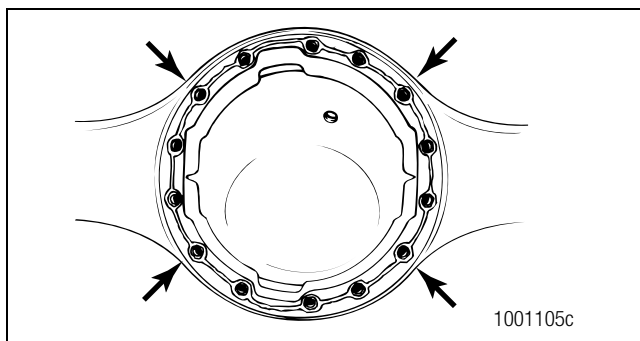

Figure 7.3
8. Install nuts and washers or capscrews and washers, if equipped, into the four corner locations around the carrier and axle housing. Hand-tighten the fasteners. Figure 7.3.